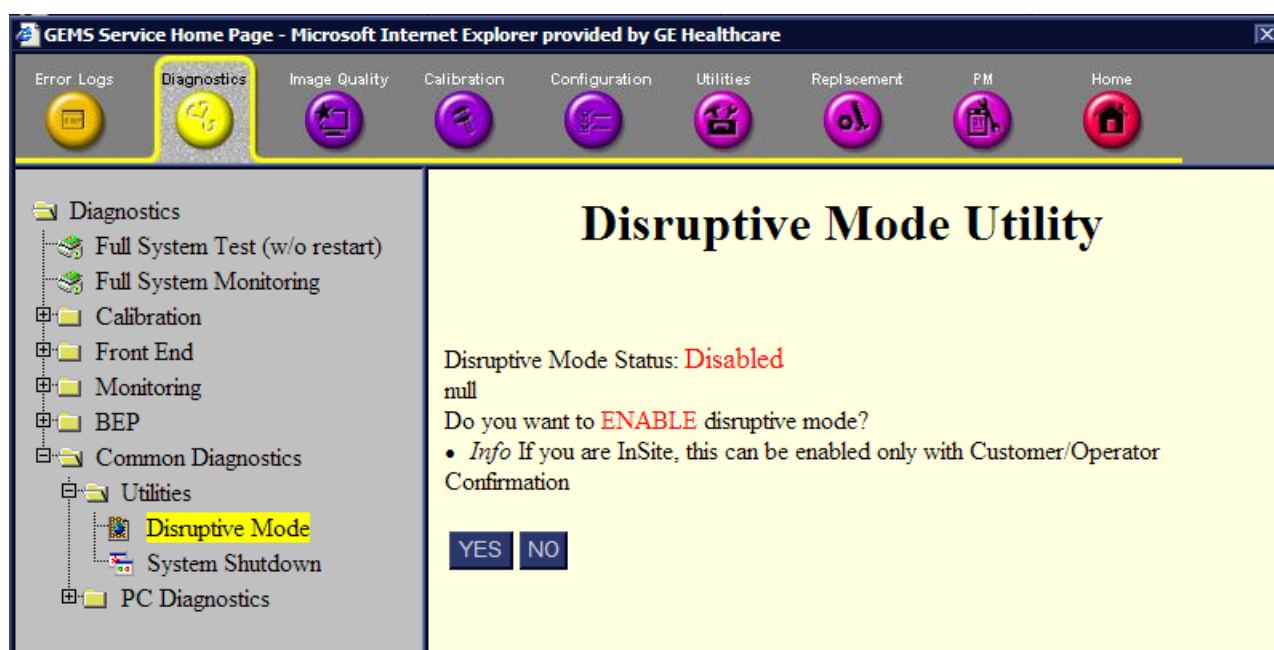

Figure 7-123 Request for Disruptive Mode
- **Disruptive Mode** - when the OLC or field engineer requests the user to invoke the Disruptive mode, the user will be asked to confirm Disruptive Mode by clicking the Yes button, as shown in Figure 7-123. Disruptive mode enables the OLC or field engineer to take control of the system for problem-solving purposes.